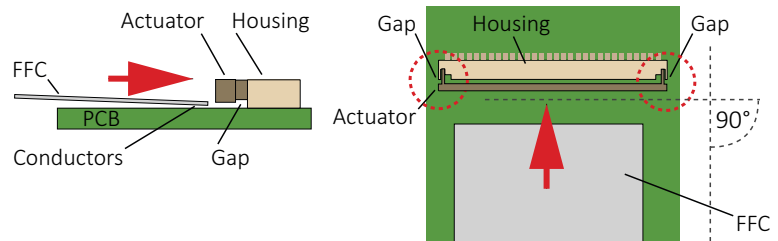

Figure 12: Opening the 22-pin FFC connector on SoMs
2. Take the FFC with conductors facing the PCB and feed it underneath the actuator into the connector at a horizontal angle of 90° to the actuator's front... (see Figure 12)